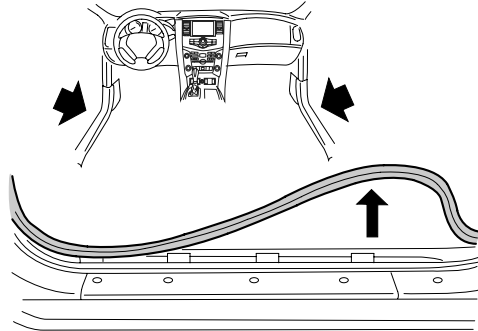

Fig.19
- (14) Function Check. Shown in Fig. 19
- 1) Remove the vehicle weather strip near the kick plate FR RH **2** attachment location. Shown in Fig. 19.